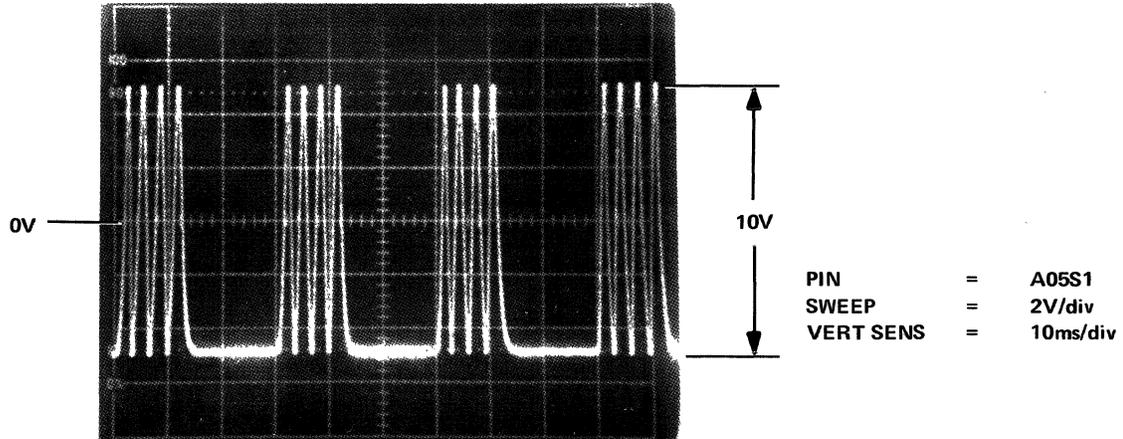

Figure 5-12 Cosine Amplitude/Offset Waveform
- Observe A05S1 (COS POSITION) for a scope display as illustrated in Figure 5-12. The waveform amplitude must be  $10 \pm 1V$  p-p and symmetrical about ground.